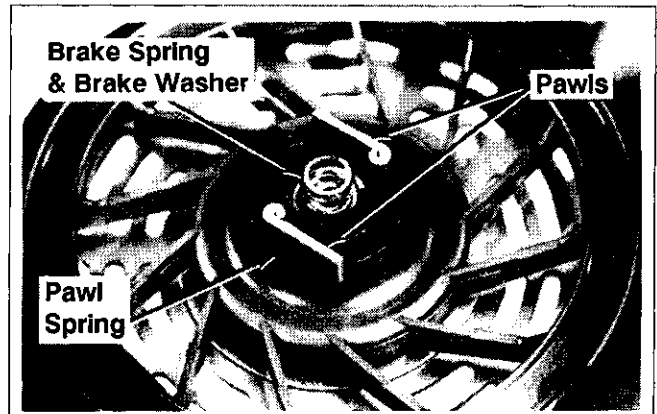

Figure 7-5. Brake Spring and Washer, Pawls, and Pawl Springs.
3. Remove the brake spring and brake washer. See Figure 7-5.